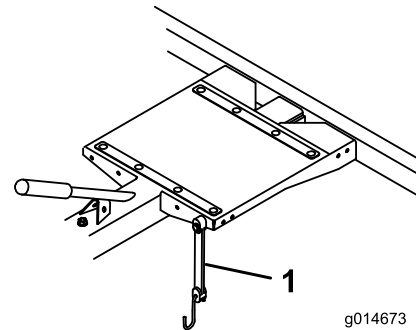

Figure 15
- During transport, use the bungee strap to secure the greens mower to the trailer (Figure 15). You can move the bungee strap to different mounting holes to accommodate different mowers.